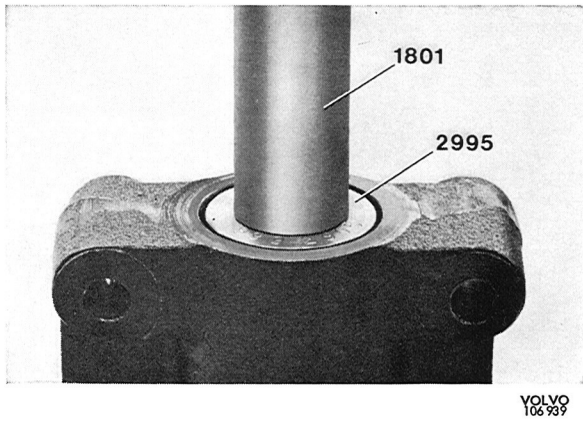

Fig. 6-84. Installing needle bearing
3. Check the needle bearings in the housing and the cover for damage. Replace if necessary. For removal, use tool 1819 (Fig. 6-83) and for pressing in, drift 2995 and handle 1801 (Fig. 6-84).